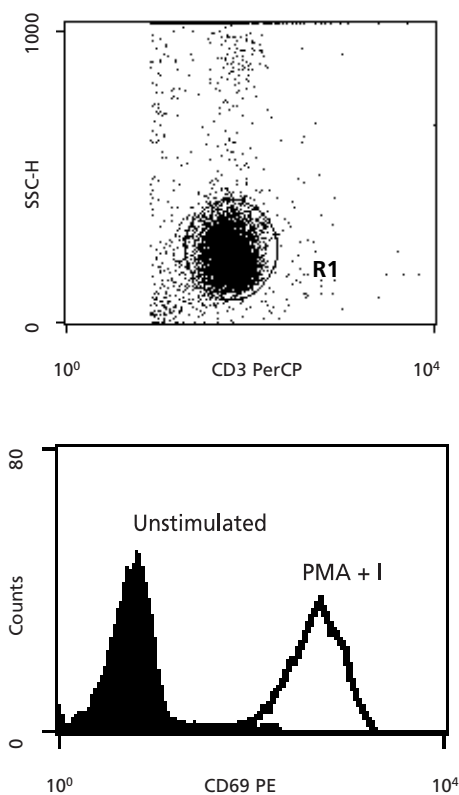

Figure 1 Activation control
3. Analyze results by fluorescence triggering on FL3 and assessing CD69 staining in the CD3-gated events. Surface staining for CD69 should be greater than 90% positive (Figure 1).